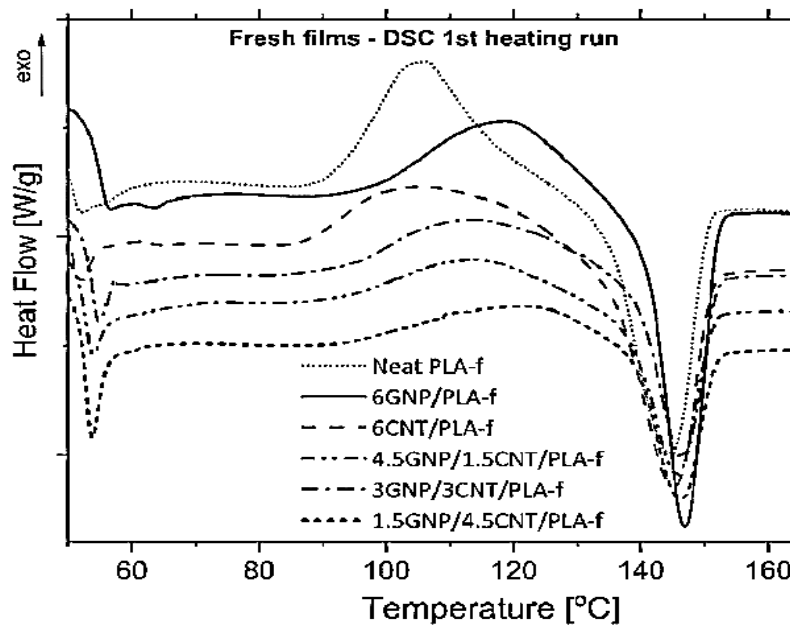

Figure 2: DSC curves of Poly (Lactic) Acid (PLA) Composite Films with Graphene nanoparticles (GNP) and Carbon Nanotubes (CNT) with varying ratio.
- (a). You need to do analysis using Differential Scanning Calorimetry (DSC). Explain important information you can get from DSC analysis in Figure 2. Discuss the effect of ratio of GNP and CNT on DSC analysis.